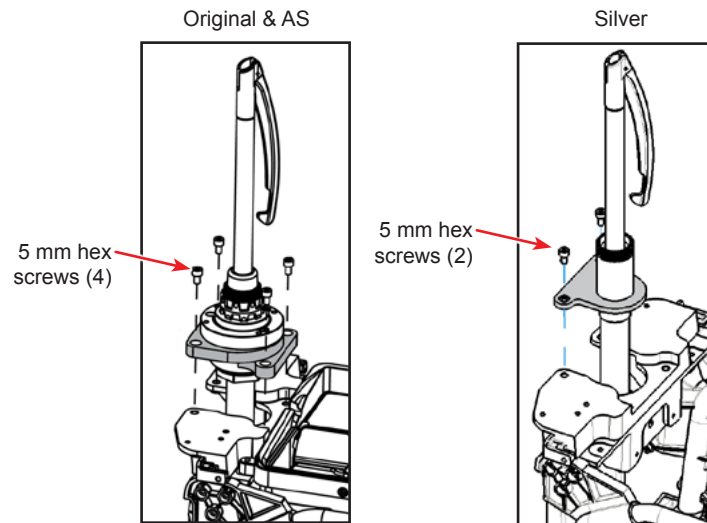

Figure 3-31 Work Surface Hub Removal
- 30.4 **For Original and AS systems:** Remove four 5 mm hex screws securing work surface hub at top of IV Pole Assembly to chassis. Slide hub up and remove from IV Pole Assembly (see Figure 3-31).
For Silver systems: Remove two 5 mm hex screws securing threaded sleeve mount at top of IV Pole Assembly to chassis. Slide mount up and remove from IV Pole Assembly (see Figure 3-31).